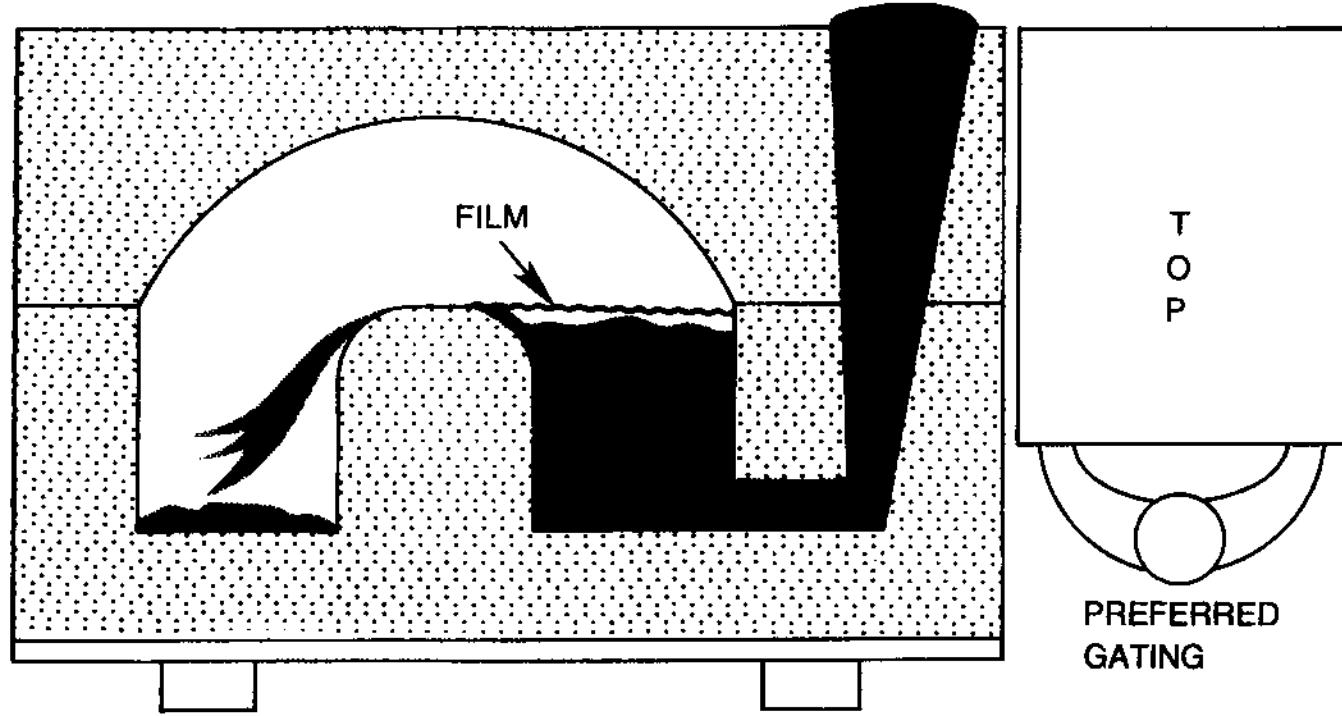

FIGURE F.6
**film on metal** When metal falling from a single gate has to climb a hill to fill the other side of the mold, oftentimes a film is formed when the metal in the first valley stops momentarily then spills over into the second valley (Fig. F-6). This temporary halt will cause a reflected cold-shut and in some instances a sufficient film will form on the halted metal to separate part of the casting into layers. Two or more gates should be provided so that none of the metal has to rise over a hill and then run down into the valley on the other side. A gate leading into each valley will allow the mold to fill uniformly.